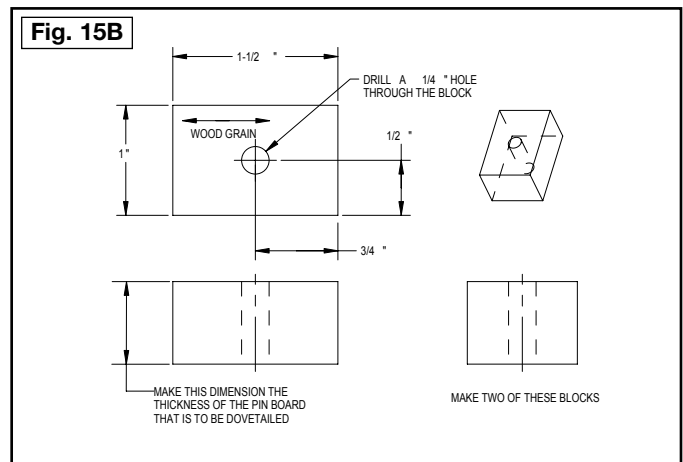

Fig. 15B
Step 2 - Make the offset clamping block. Make a counterbore for the threaded T-nut (Fig. 15B).